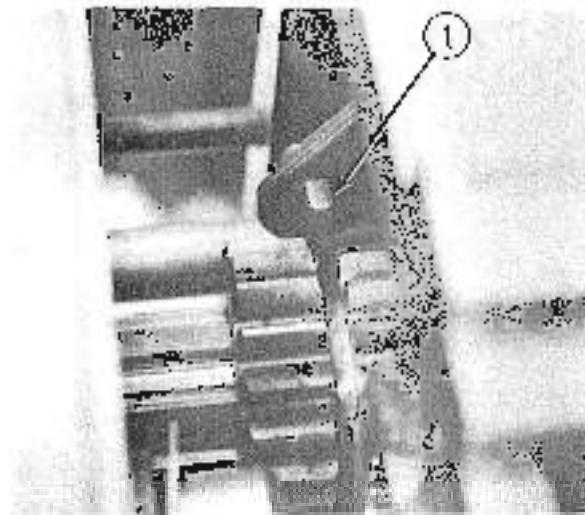

FIG. 13
Place the cover onto the (2) support pins and move it forward until you can engage the shifting dogs into the P10 slider gear (1, Fig. 13) and into the range shifting collar.